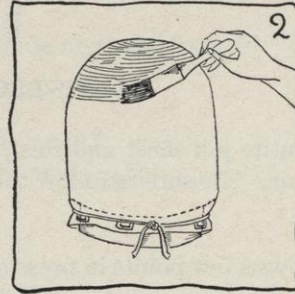

FIG. 2.
- b. Paint the crown evenly (see Figure 2) with round-and-round, even strokes of the brush. This stiffens the crown just enough to help it keep its shape. Should you wish the crown to be stiffer, allow the first coat of sizing to dry, and then apply a second coat, as directed in Sections *a* and *b* above.